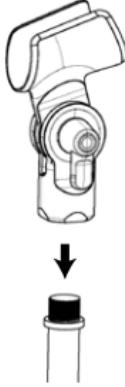

fig. 6
1. Fix the microphone holder on a microphone stand (fig 6)